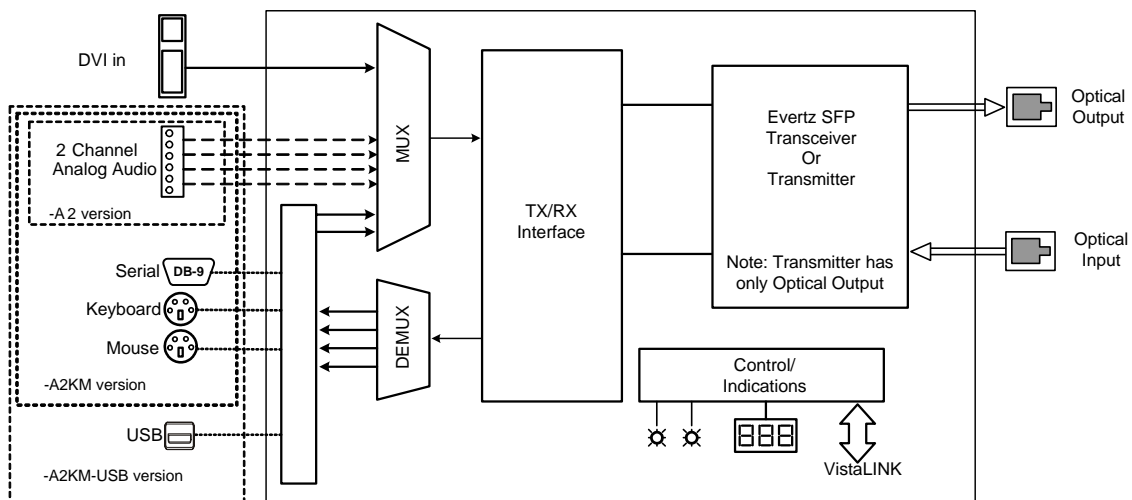

Figure 1-2: 7708DVIT Block Diagram
- Figure 1-2: 7708DVIT Block Diagram 2